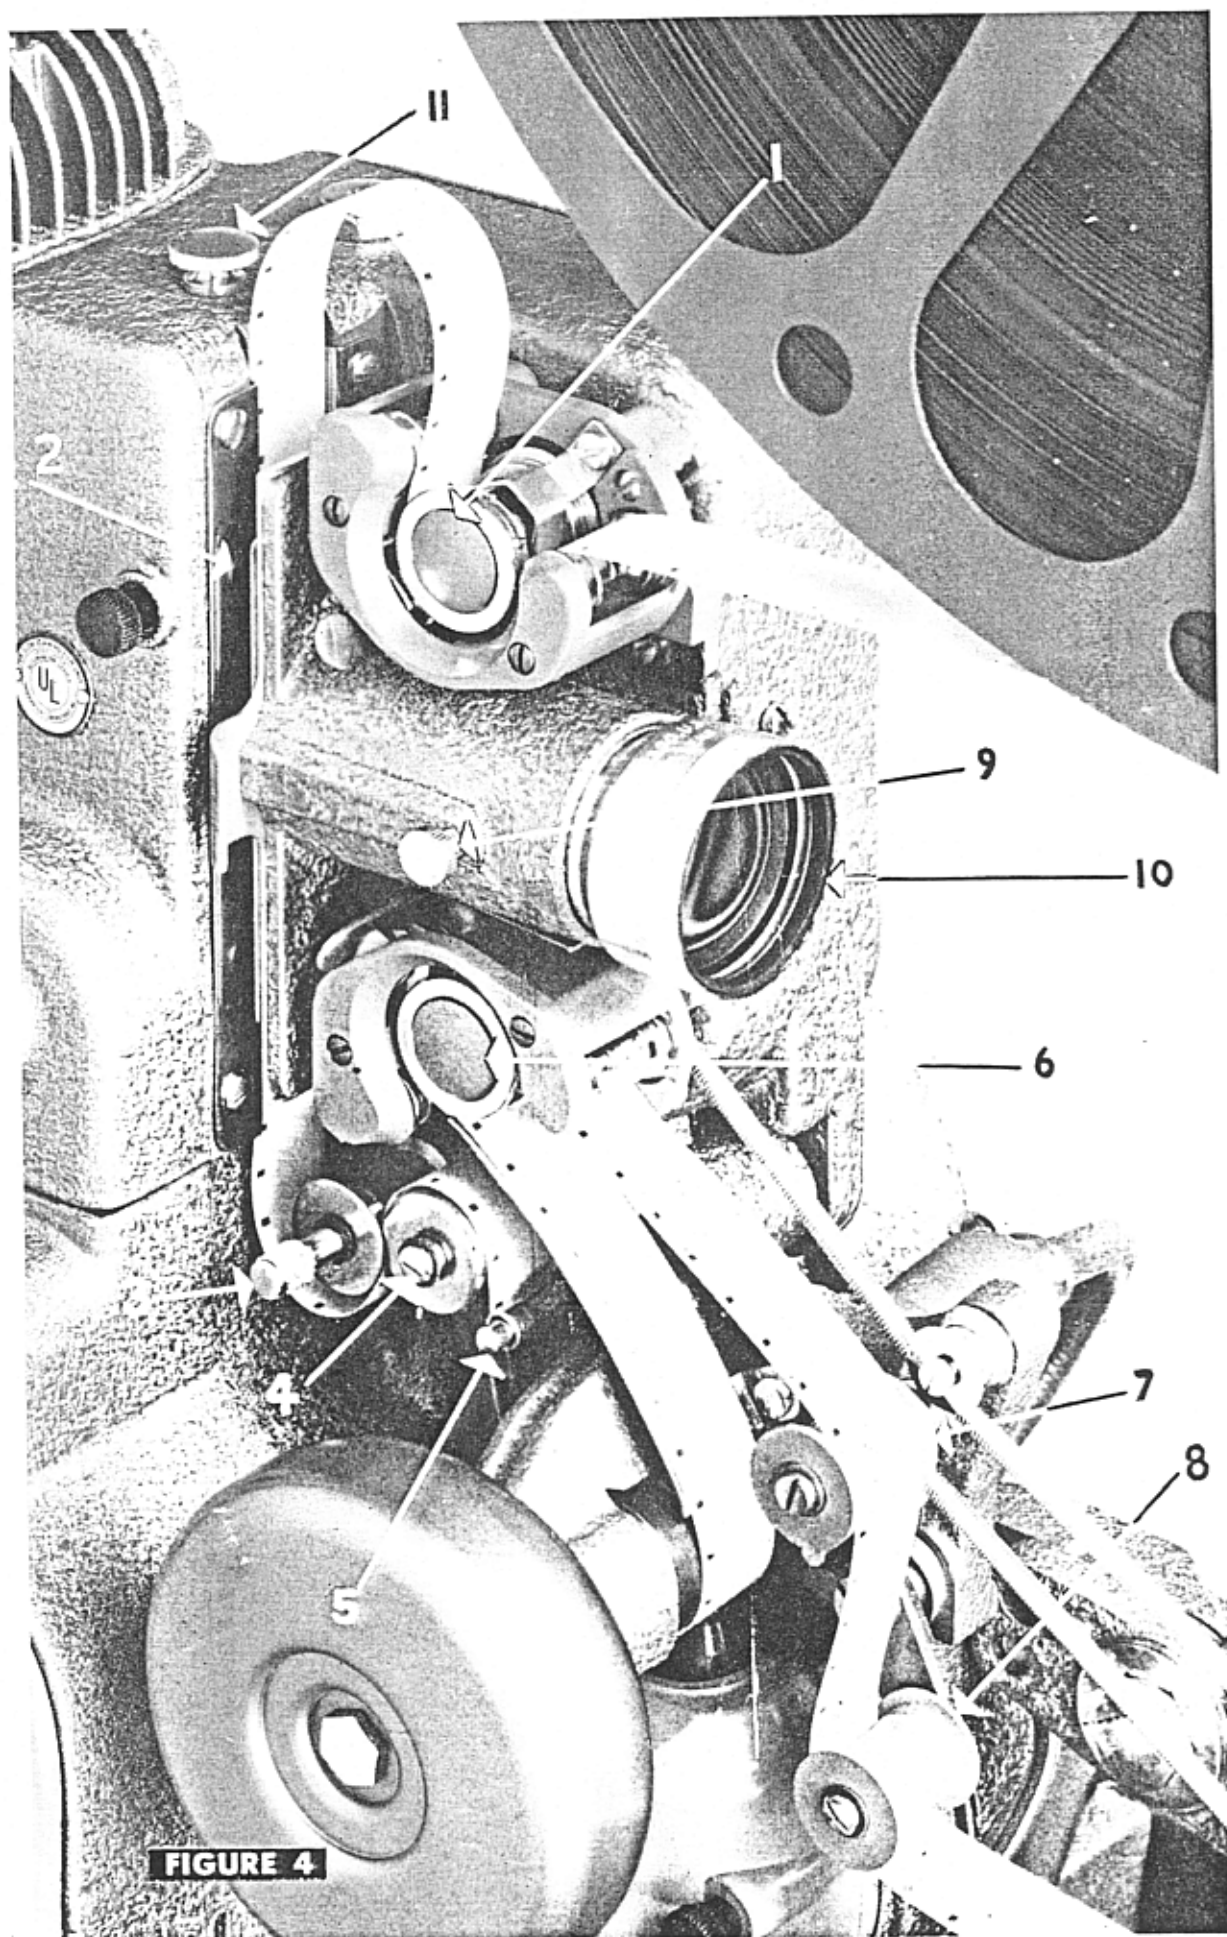

FIGURE 4
5. Place the film under the "Feed Sprocket" (1 Fig. 4) and pull up on the loose end in order to be sure that the sprocket holes engage the sprocket teeth.
6. Thread the film through the film gate (2 Fig. 4) leaving a loop at the top large enough for the insertion of two fingers.
7. Push the "Sound Loop Synchronizer" (3 Fig. 4) to the rear position and thread the film up over the "Tension Roller." (4 Fig. 4).
8. Thread the film around the lower guideway (5 Fig. 4) then around the "Sound Drum" and up over the upper guideway to the "Takeup Sprocket" (6 Fig. 4).
10. Place the film on top of the "Film Guide Roller" (7 Fig. 4) and under the "Tension Equalizer Roller" (8 Fig. 4).
13. Swing the "Sound Loop Synchronizer" (3 Fig. 4) to the forward position.
3. Loosen the lens lock screw (9 Fig. 4) and rotate the lens (10 Fig. 4) in order to focus the picture on the screen. After the picture has been properly focused, tighten the lock screw.
4. If parts of two pictures or a horizontal line appears on the screen rotate the framer knob (11 Fig. 4) in order to correct the condition.